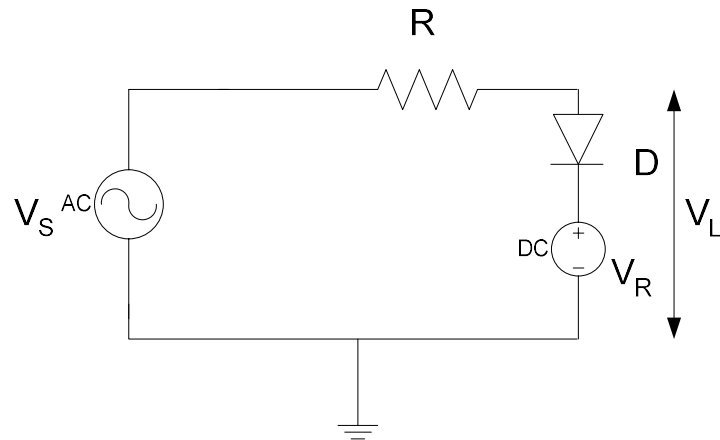

Fig. 3.11 Diode limiter
1. Construct the circuit as shown in Fig. 3.11. Adjust  $V_S$  to 15 Vpp Sine Wave at 1kHz and  $V_R$  to 5 Vdc.